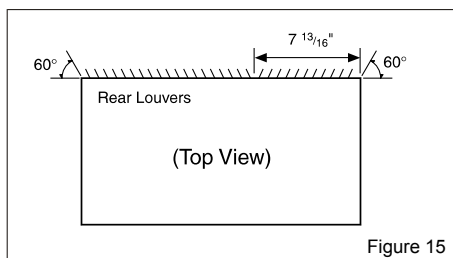

Figure 15
- 1** Redirect the louvers at the back of the wall sleeve to 60° angle as shown in the Figure 15. The use of pliers is recommended.